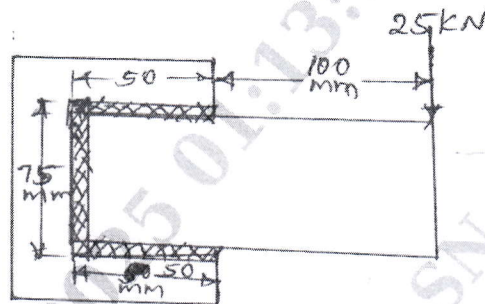

Fig. Q8 (b)
- b. Determine the size of weld required for an eccentrically loaded weld joint as shown in Fig. Q8 (b). The allowable stress in the weld is 75 MPa. (14 Marks)